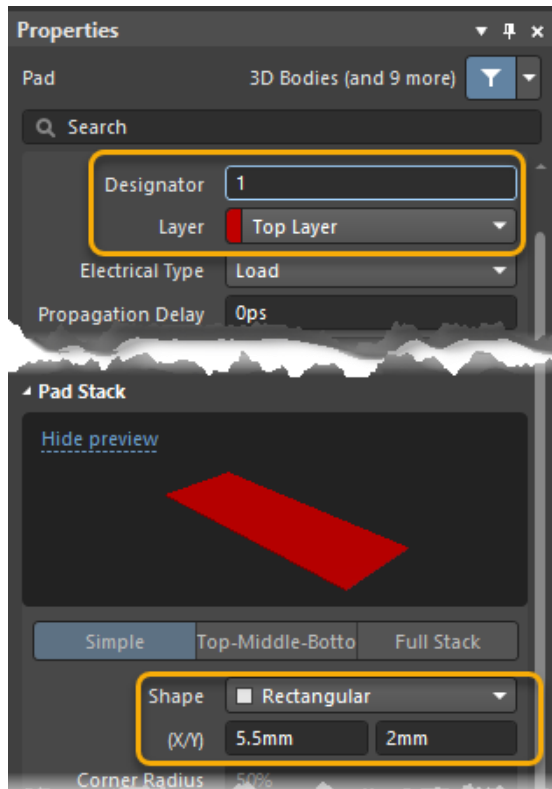

Figure 26. Pad Properties
39. Hit the **Tab** key to open its *Properties* panel before placing it. You can use Figure 26 below as a reference for the following steps.
- c) Change the (X/Y) pad dimensions to X: 5.5mm Y: 2mm. You may need to scroll down the *Properties* panel to enter the pad dimensions, as shown in Figure 26.